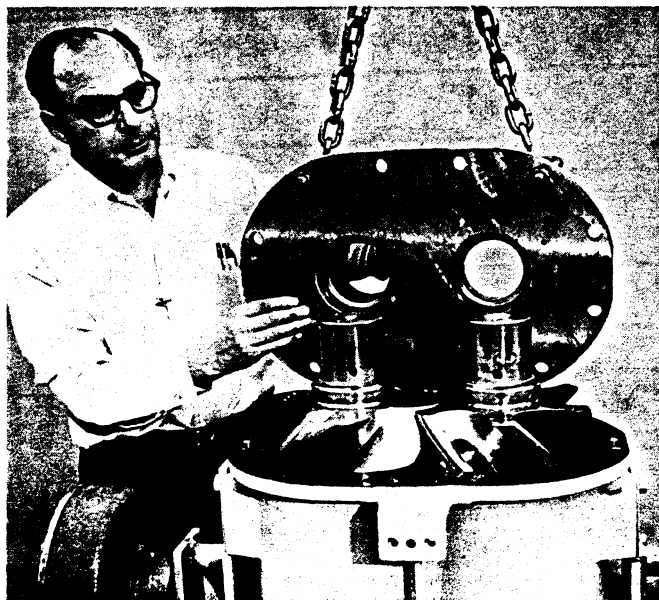

Figure 16
13. Remove the rear bearing housing. Refer to Figure 16. Remove and discard the rear bearing housing to rotor housing gasket. Tap the thrust bearings out of the rear bearing housing using a $\frac{1}{8}$ " diameter drift through the three holes provided around the outer race of each bearing. Refer to Figure 17.